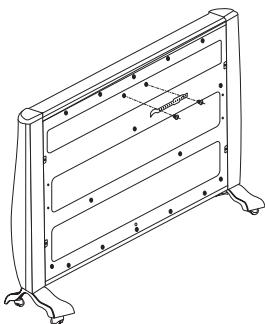

Figure 3
- Install the provided handle at the back of the appliance by fixing the two screws as shown (Figure 3) with 2 screws of 4*14 is fixed into the correspond hole.